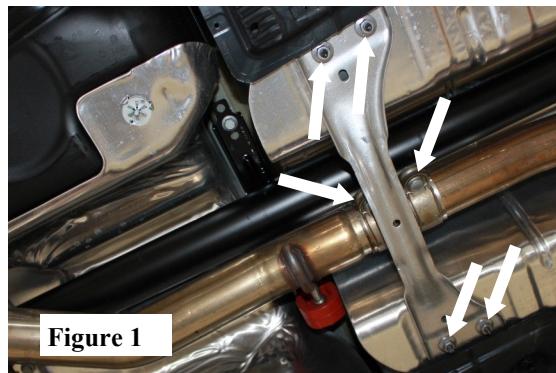

Figure 1
1. Remove cross brace by removing (4) bolts. Keep all hardware for reinstallation later. Loosen (2) 13mm bolts on band clamp and slide clamp towards front of vehicle. (See Fig. 1)